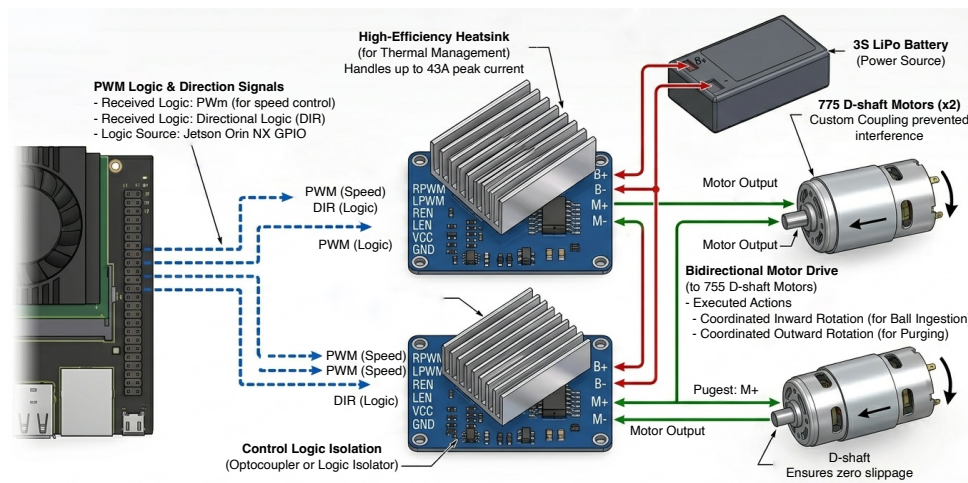

Figure 12: CourtSweeper full operational workflow: SLAM mapping → Nav2 path planning → dual-PID tracking → roller ingestion
1. The robot's high-level FSM (Figure 12) automatically transitions to the **SEARCHING** state and follows the Boustrophedon S-shaped coverage path across the court.